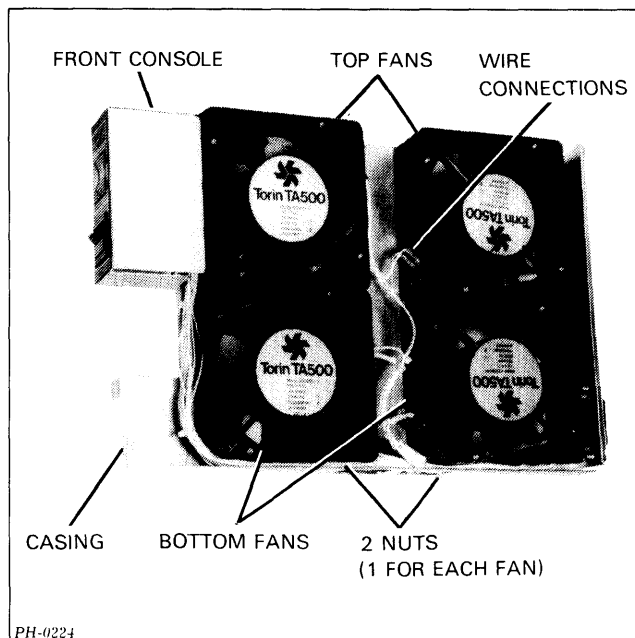

Figure 12.3 Fan module for 16-slot chassis (front view)
- f. Install the new fan so that it will pull air INTO the chassis. (Note that the fan manufacturer's logo may be on either the inside of the fan module, as shown in Figure 12.3, or the outside.) If the fan is a bottom fan, make sure it is on the stud properly, and then replace the washer, locking washer, and the nut.